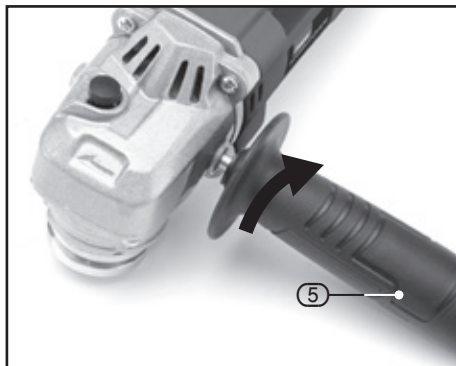

FIG.1
8.1 FITTING THE AUXILIARY HANDLE – FIG.1